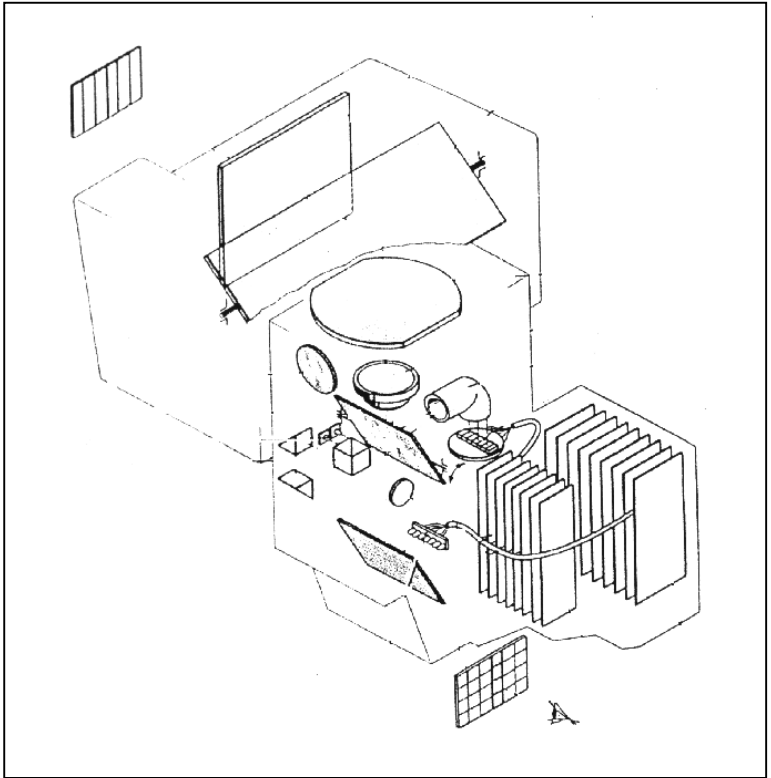

Figure 6-1-1: Schematic of Thermal Imager
10. Thermal Imaging is a process, which eliminates visible light and allows the observation of electro-magnetic energy in the infrared spectrum. Infrared (IR) energy is produced by a heat source thus it allows us to view any object, which is a source of heat. Early thermal imagers were incapable of detecting the minute thermal differences emitted by distant objects so a non-passive method of projecting thermal energy onto objects was created. This was done by filtering white light through a Germanium lens then using the filtered light to illuminate these objects. The Germanium lens, as seen on some of our older SMP vehicle light clusters, filtered out the white or visible light and only permitted the projection of the IR energy. The downfall of these systems was that the IR source illumination was visible to anyone else who possessed a thermal imager often compromising the location of the observer.
12. Using the LAV III thermal imager (see Figure 6-1-1) as a model we will trace exactly how a thermal image is received, processed and displayed:
24. **Clear Night Performance.** Thermal imagery on a clear night will permit a gunner to detect targets at extremely long ranges. On a clear night it is common for the temperature of a target to far exceed the background temperatures of foliage and ground. The target heat transmits well through the clear night air and a target is detected which is of potential tactical importance (see Figure 6-1-1).